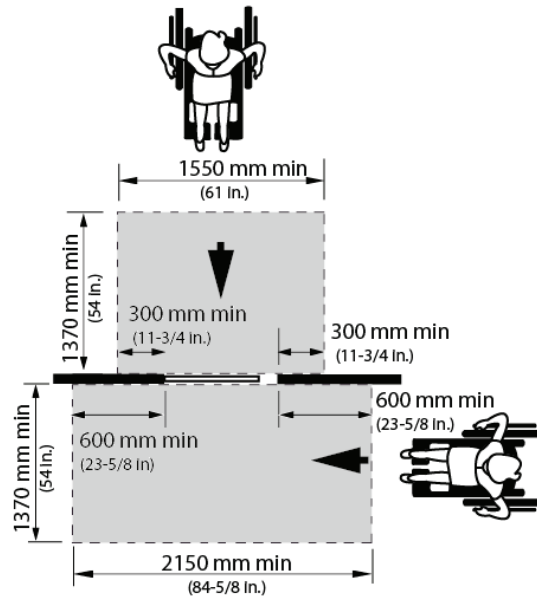

Figure 48: Front and Side Approach at Sliding Doors
- Where doors in a series do not align, a turn circle of at least 1525 mm must be provided within the vestibule area, clear of any door swing. (See figure 48)